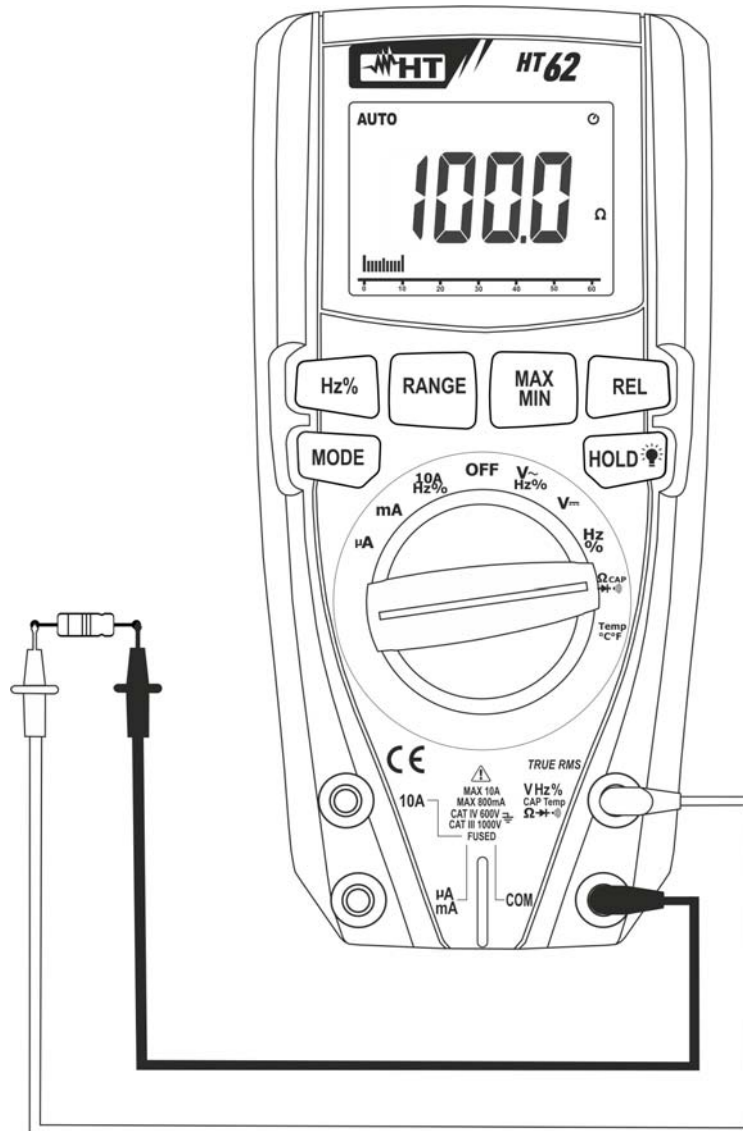

Fig. 5: Use of the instrument for resistance measurement and continuity test
3. Position the test leads in the desired spots of the circuit to be measured (see Fig. 5). The display shows the value of resistance.